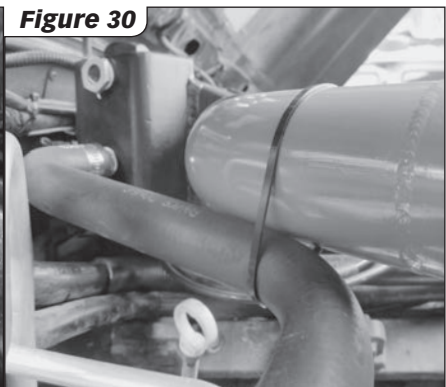

Figure 30
1. Install Techni-Cooler to pump inlet hose (P/N 94269) and secure with clamps (P/N 92810). Secure hose to boost tube using double-loop tie wrap (P/N 62008). **See Figure 30**